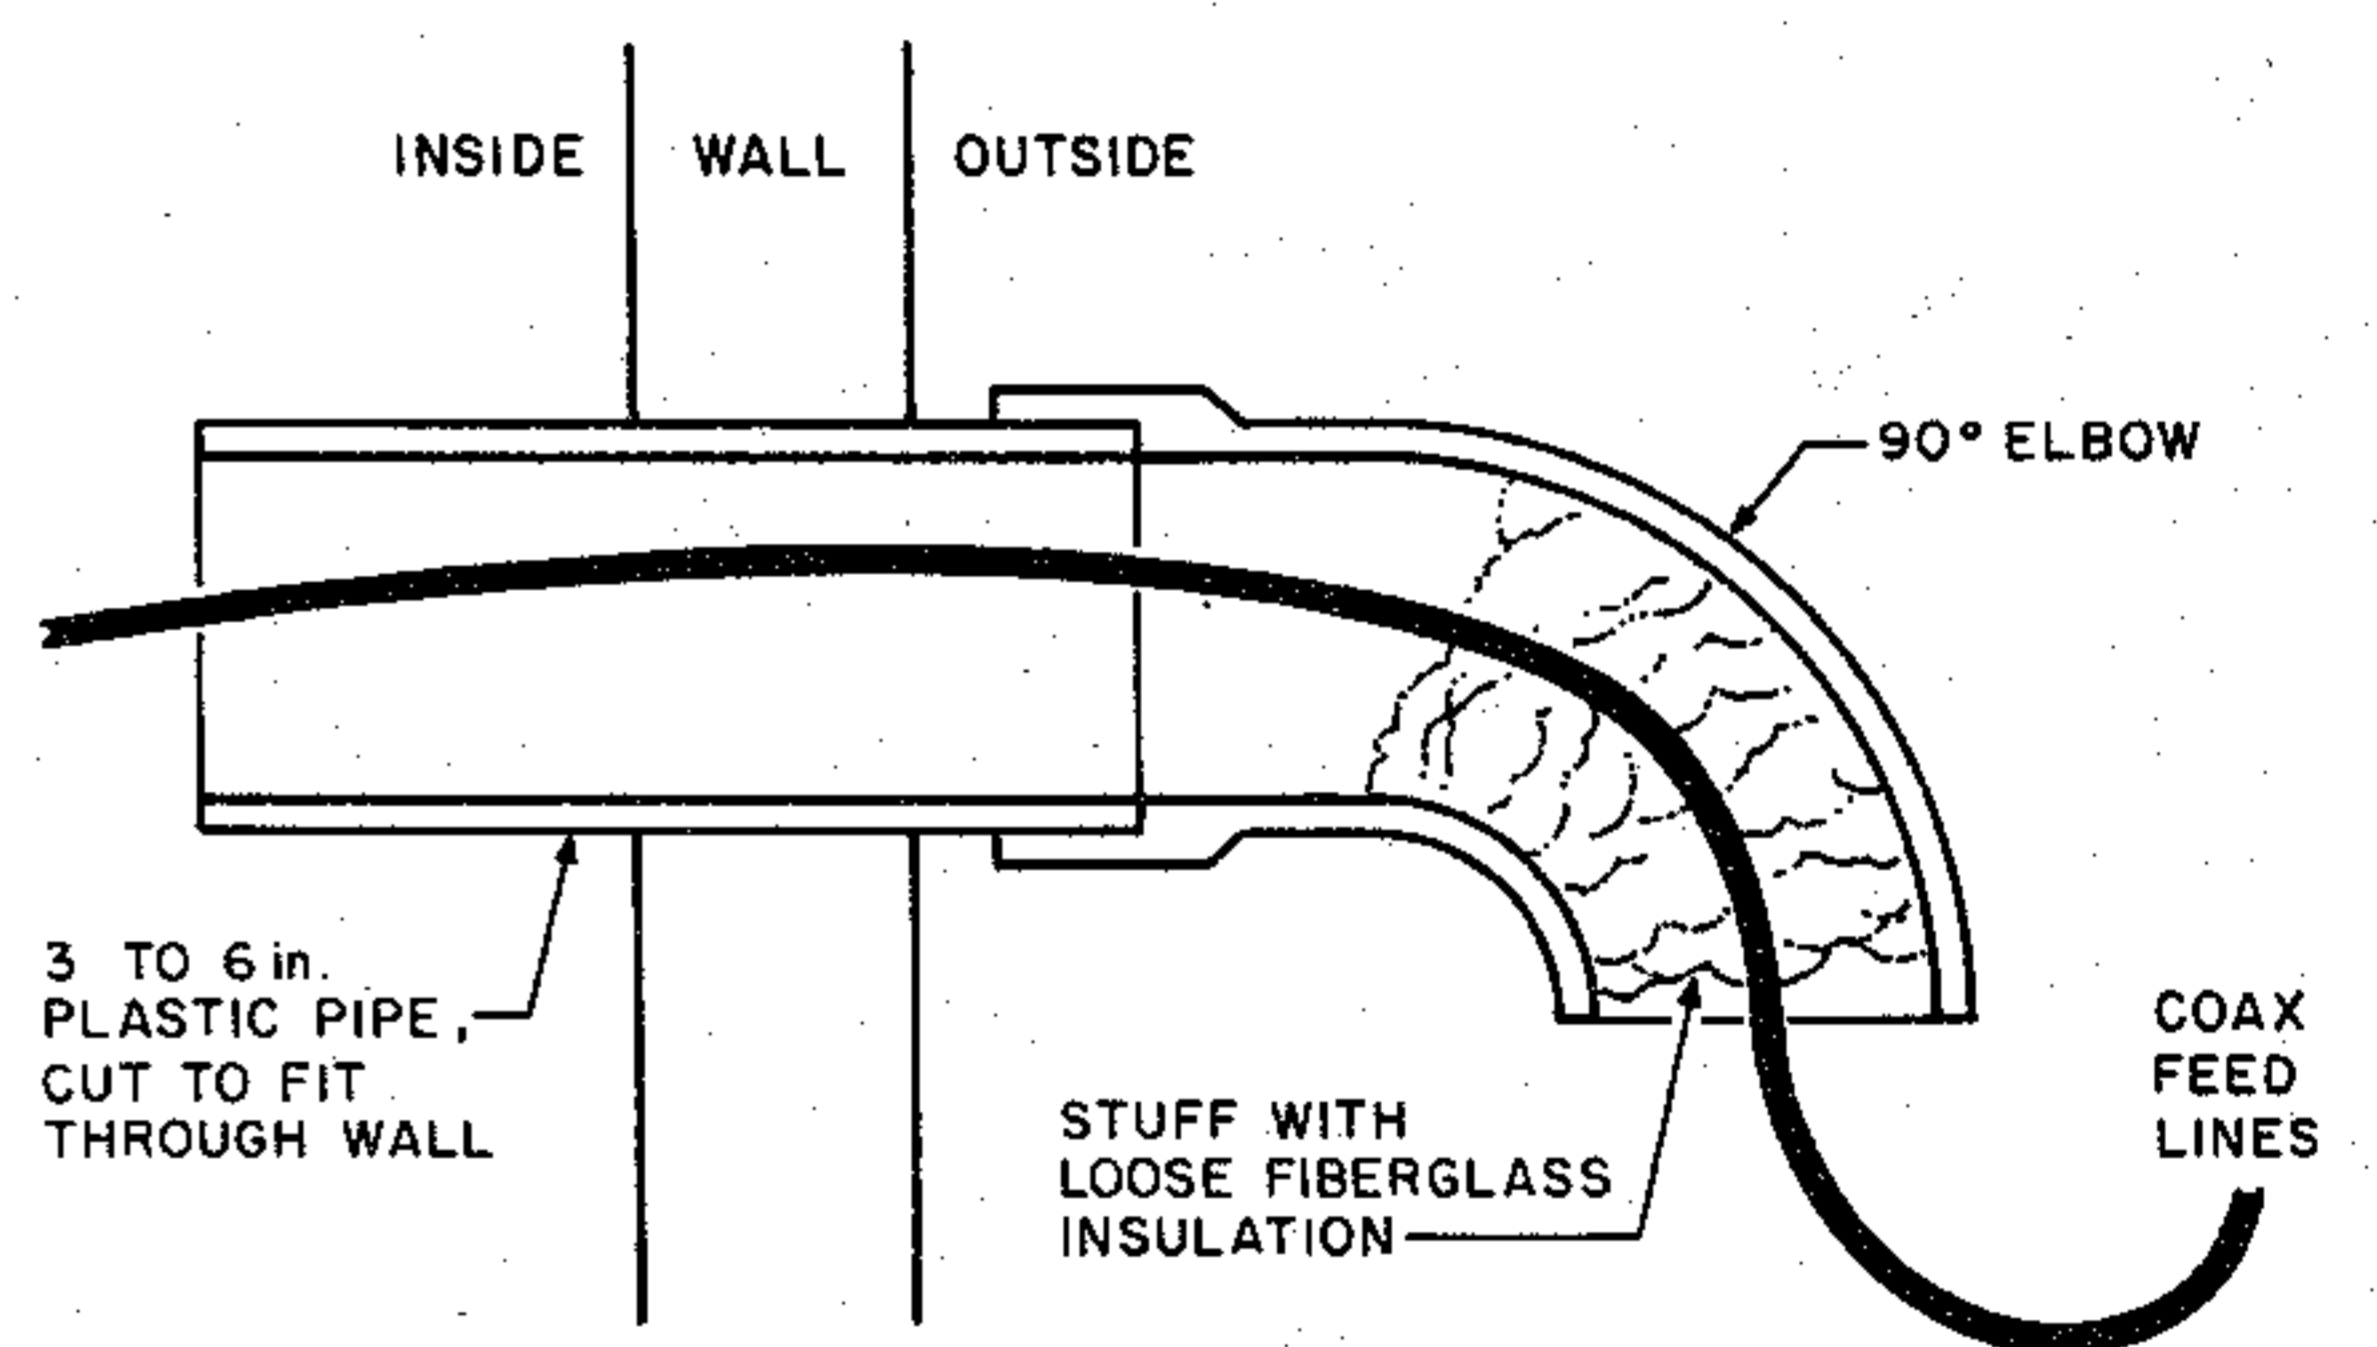

Fig. 5.
A. Your shack must be located in such a way that you can run your antenna feedlines to the operating position. For this reason it is always nice to be close to an outside wall. Remember that no ham in history has ever had enough antennas, either. Plan ahead, and if you expect to run three lengths of coax into the shack, plan for at least six or eight and make whatever opening you drill through the wall big enough for the additional feedlines. It is much easier to stuff the extra space with loose fiberglass insulation than to go back and drill some more. Fig. 5 shows one possibility.